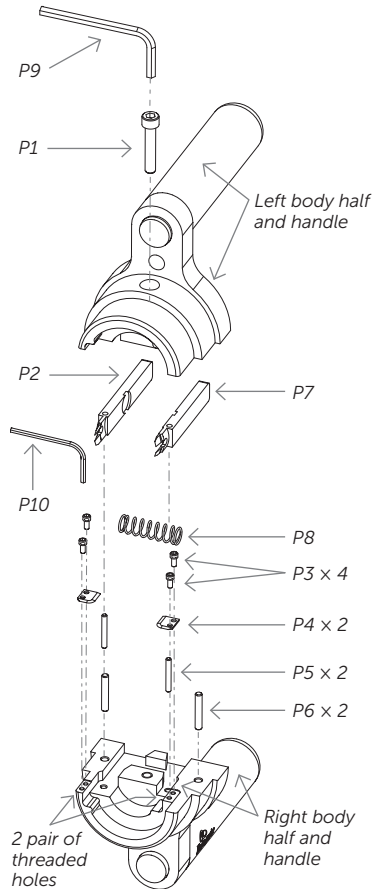

Figure 4.
4. Assemble large o-ring pick (P2) over the small dowel pin (P5) on the left side of the body half as shown in Figure 4 so the counter bore is facing towards the center of the assembly.
5. Assemble small o-ring pick (P7) over the small dowel pin (P5) on the right side of the body half as shown in Figure 4 so the counter bore is facing towards the center of the assembly.